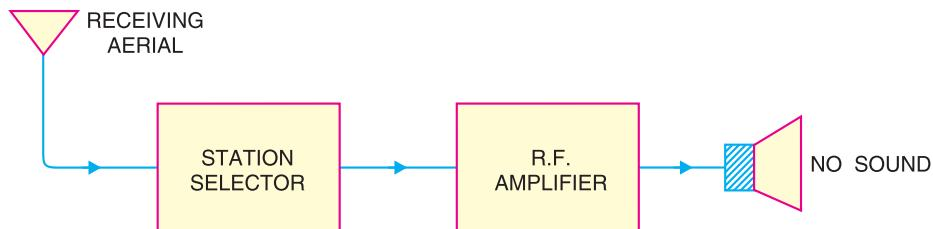

Fig. 16.15
**Necessity of demodulation.** It was noted previously that amplitude modulated wave consists of carrier and sideband frequencies. The audio signal is contained in the sideband frequencies which are radio frequencies. If the modulated wave after amplification is directly fed to the speaker as shown in Fig. 16.15, no sound will be heard. It is because diaphragm of the speaker is not at all able to respond to such high frequencies. Before the diaphragm is able to move in one direction, the rapid reversal of current tends to move it in the opposite direction i.e. diaphragm will not move at all. Consequently, no sound will be heard.